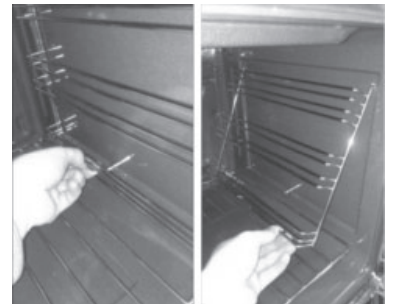

Fig. 11
- Place the side rail frames into the holes on the side walls inside the oven (Figure 11).